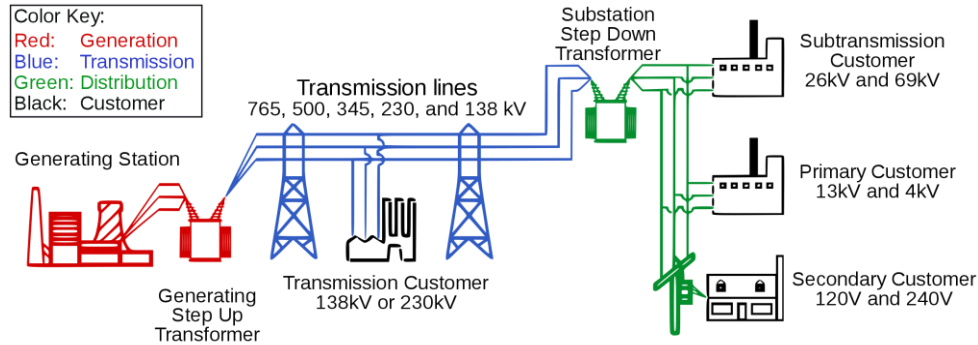

Figure 1: A typical electricity delivery system
Q.1. A typical electricity delivery system is generally composed of generation, transmission and distribution parts as shown in Figure 1.